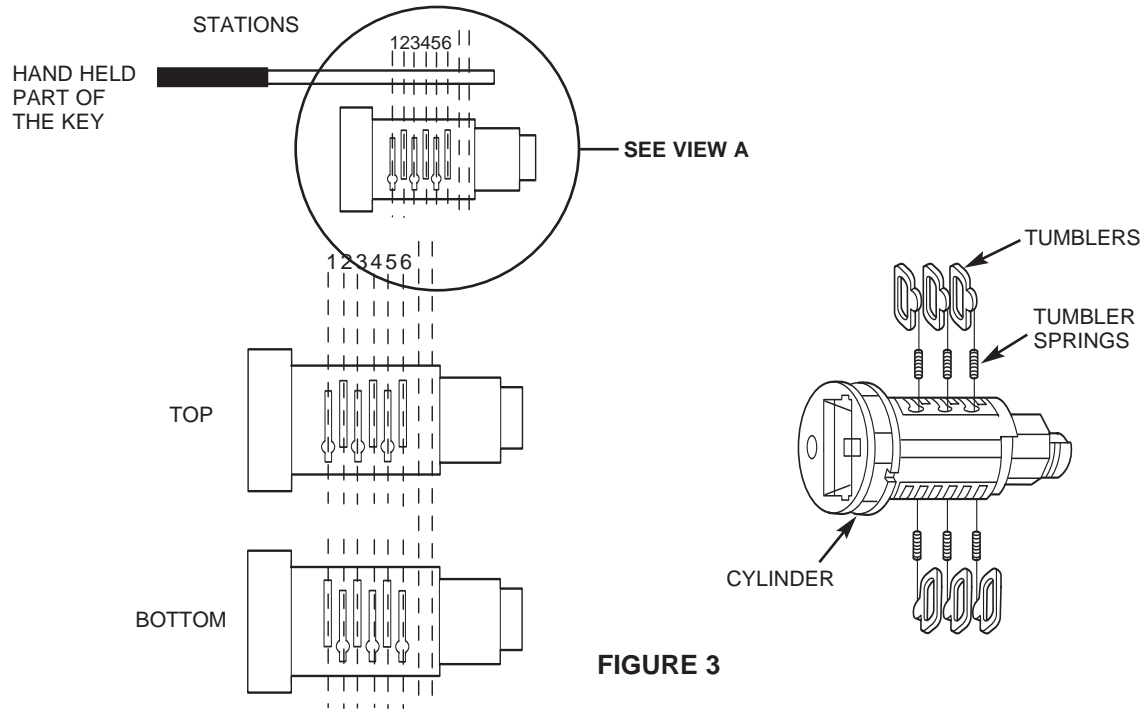
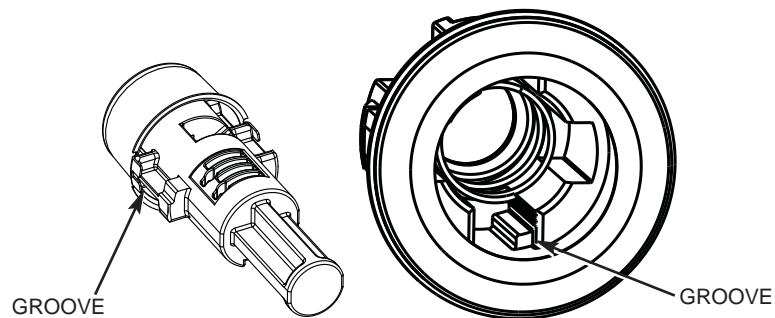

FIGURE 3
FIGURE 4
3. Insert one tumbler spring (C) into each of the holes located at the end of the tumbler wards on the lock cylinder sub-assembly (D).
4. Insert the required tumblers (B1- B5) into the tumbler wards in the proper orientation (refer to Figure 3), and in the sequence that matches the key cut depths, for key stations 1, 2, 3, and 4.
6. Place O-ring (I) around cylinder sub-assembly's stainless steel cap from the front, and set flush against the groove towards the back of the cylinder cap.
7. Apply the supplied grease (E) to the tumbler wards and at the inner face of the case cap (J) where the O-ring will seat.
8. Insert the compression spring (G) into the case (F).
9. Place cap on the cylinder sub-assembly, resting it on the o-ring. Insert the key in the lock cylinder sub-assembly while gently pushing on tumblers. Then insert the lock cylinder sub-assembly fully into the case on top of the spring by lining up the groove on the cylinder with the groove on the case (refer to Figure 4).
11. Rotate and push in the lock cylinder sub-assembly in the lock case at least ten (10) times so that the grease applied to the tumbler wards is evenly distributed along the inner surface of the lock case and the exterior surface of the lock cylinder sub-assembly (also check that lock operates correctly).
12. Slide gasket (H) from the back of the case, and rest gasket on the lip at the front of the case (where the case cap was just crimped).